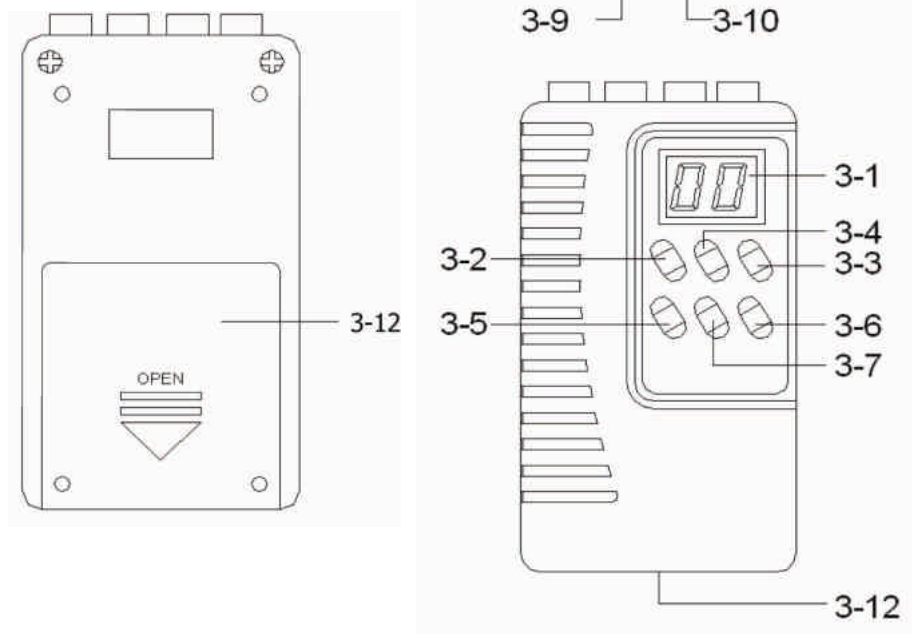

Fig. 1
- 2) Press the "Function Button" (3-3, Fig. 1) until the display show the "AUTO REC" indicator along with "PS" (pause).
- 3) Press the "Pause Button" (3-6, Fig. 1), the Meter's data along the Time (year/ month/ date/ hour/ minute/ second) will save into the Data Logger per Sampling Time. When the data is being saved into the Data Logger, the display will show "rC" and the "REC" indicator will flash once a while.
- 4) If intend to stop the Auto data input, just press the "Pause Button" (3-6, Fig. 1), the Data Logger's LCD will show "PS".
- 2) Press the "Function Button" (3-3, Fig. 1) until the "Display"(3-1, Fig. 1) show the "MANUAL REC" indicator along with "PS" (pause).
- 3) Press the "Pause Button" (3-6, Fig. 1) once, the Meter's data along the Time (year/ month/ date/ hour/ minute/ second) will save into the Data Logger one time. When the data save into Data logger, the display both "rC" and the "REC" indicator will flash once a while.
- 4) If intend to stop the Auto data input, just press the Pause Button " (3-6, Fig. 1), the Data Logger's LCD will show "PS".
- 1) Power ON the "Data Logger" by pressing the "Power Button" (3-2, Fig. 1), the display will show "PS" (pause).
- 2) Press the "Date/Time Button" (3-4, Fig. 1) continuously for at least 2 seconds; release the button, the LCD display will flash. Now the Data Logger is ready for setting the clock time.
- a. During the LCD flashing, press the "Date/Time Button" (3-4, Fig. 1) once to select the Clock Time setting unit of year/ month/ date// hour/ minute/ second in sequence.
- b. Using "▲ Button" (3-3, Fig. 1) "▼ Button" (3-6, Fig. 1) to select the clock time value.
- c. After setting the clock time value, pressing the "Enter Button" (3-5, Fig. 1) will finish the clock time setting procedures and save the desired value into the memory circuit, the LCD will show "PS" again.
- 1) Power ON the Data Logger by pressing the "Power Button" (3-2, Fig. 1), the display will show "PS" (pause).
- 2) Press the "Sample Button" (3-7, Fig. 1) continuously at least 2 seconds; release the button, the LCD display will flash. Now the Data Logger is ready for setting the sample time.
- a. During the LCD flashing, press the "Sample Button" (3-7, Fig. 1) once a while to select the Sample Time setting unit of hour/ minute/ second in sequence.
- b. Using "▲ Button" (3-3, Fig. 1) "▼ Button" (3-6, Fig. 1) to select the sample time value.
- c. After setting the sample time value, press the "Enter Button" (3-5, Fig. 1) will finish the sample time setting procedures and save the desired value into the memory circuit, the LCD will show "PS" again.
- 2) Press the "Date/Time Button" (3-4, Fig. 1), the display will show the existing clock time value in the sequence of year/ month/ date/ hour/ minute/ second.
- 2) Press the "Sample Time Button" (3-7, Fig. 1), the display will show the existing sample time value in the sequence of hour/ minute/ second.
- 2) Press the "Enter/Clear Button" (3-5, Fig. 1) continuously until the display flashing and show as following, release the button.
- 3) Using "▲ Button" (3-3, Fig. 1) "▼ Button" (3-6, Fig. 1) to select "YS" or "no".
If select "YS", then press the "Enter Button" (3-5, Fig. 1) will clear the memory. The display will show "00 %" then returns to "PS" (pause)
- 2) Press the "Enter/Clear Button" (3-5, Fig. 1) once, displays will show the existing memory size in %. For example display show 96%, 75%... then return to "PS" (pause).
- 3) Press the "Function Button" (3-3, Fig. 1) until the "Display" (3-1, Fig. 1) show the "OUT %" indicator along with "PS" (pause).
- a. Plug in the earphone plug to "Direct Output Socket" (3-11, Fig. 1) when using the USB cable (set the range to position 1/direct type) to transfer data.
- b. Plug in the earphone plug to "Isolate Output Socket" (3-9, Fig. 1) when using the USB cable (set the range to position 2/isolate type) to transfer data.